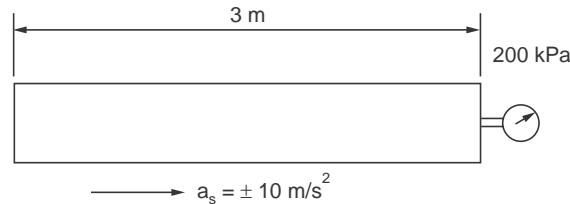

Figure E. 2.20
- E.2.20.** A cylinder containing oil of specific gravity 0.92 as shown in Fig. E.2.20 is accelerated at  $10 \text{ m/s}^2$  towards (i) right and (ii) left. The reading under accelerating conditions at the right end was  $200 \text{ kN/m}^2$ . The tube is 3 m long. Determine the pressure at the left end.